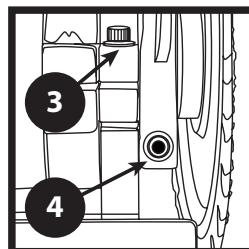
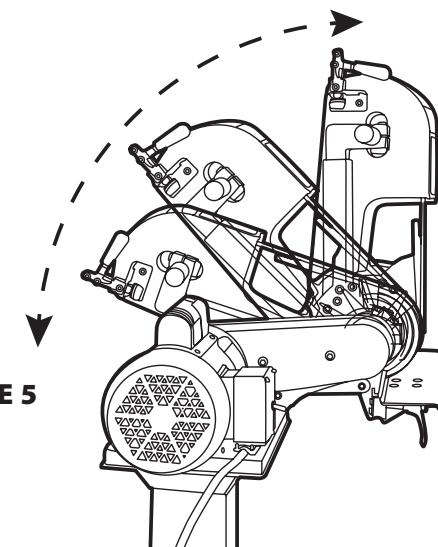

FIGURE 2
FIGURE 5
2. Locate the 5/16" Allen screw that secures the table support arm to the frame and loosen it. (Figure 2)
4. Next, loosen the contact wheel guard bolt with a 3/16" Allen wrench. The machine can then be adjusted to positions between vertical to horizontal, (Figure 5) pivoting the machine and tightening. Take precautions to not over tighten the Allen screws. As a rule of thumb, a 1/4 turn past snug will suffice. (Figure 2)
1. Using a 5/16" Allen wrench, loosen the bolt that clamps down the main support frame of the machine (See Figure 2).